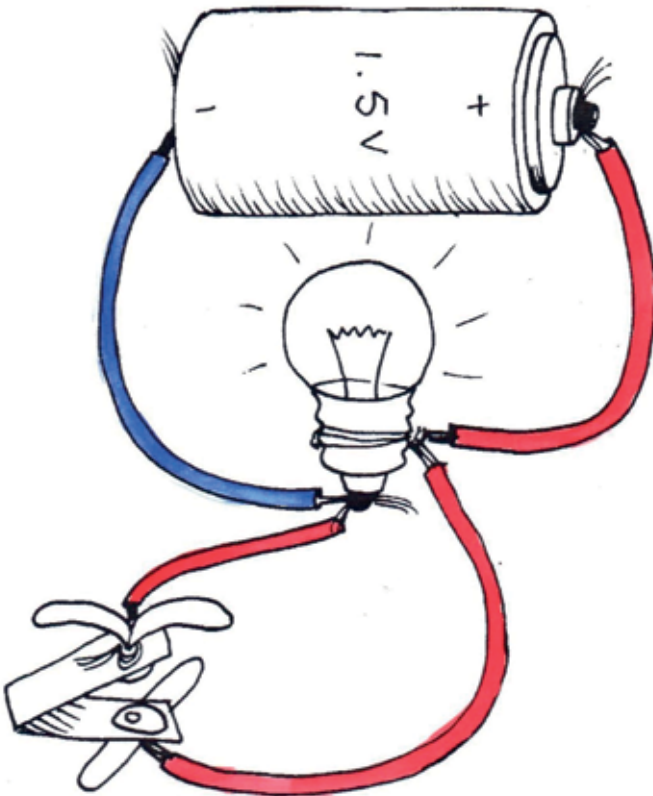

Figure 9
7. Look at Figure 9. The bulb is glowing, but if you press the switch, the bulb stops glowing. Explain the problem, and draw a picture on the next page to show how you would connect the circuit in the correct way. The bulb should glow only when you press the switch.